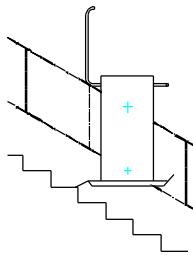

Fig. 2.1
4. Unlock the barrier arm by following procedure described on page 18. Note that this process is only applicable when the carriage is not positioned at a landing station. The barrier arm to the stairs side only of the lift should be raised; raising the arm to the open side of the carriage would expose the user to toppling off the platform and falling down the stairs. Refer to Fig 2.1.